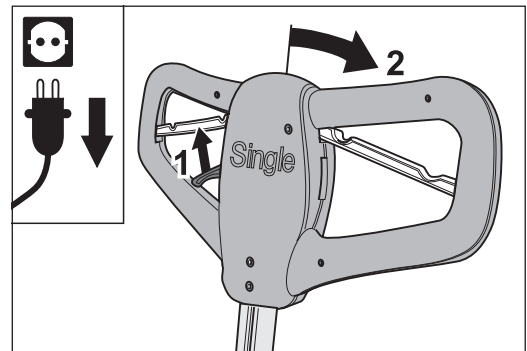

Fig. 29 Pull the adjusting lever to release the lock on the guide tube.
- 5 Pull the adjusting lever on the handle towards you to release the lock of the guide tube (Fig. 29) and push the guide tube back into a horizontal position.